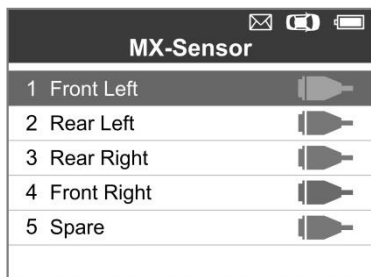
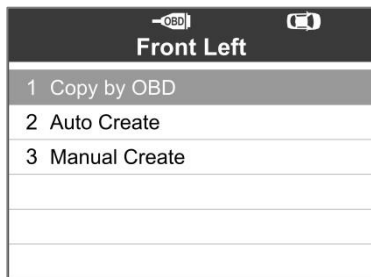

Figure 5.27
Figure 5.28
- 1) Follow the steps in 5.1 Auto Create to select **MX-Sensor** to enter the Programming function. The OBD mark will appear on the right side of the screen (Figure 5.27). After selecting the specific wheel and pressing the **Y** button, the “Copy by OBD” option is available on the function menu (Figure 5.28).